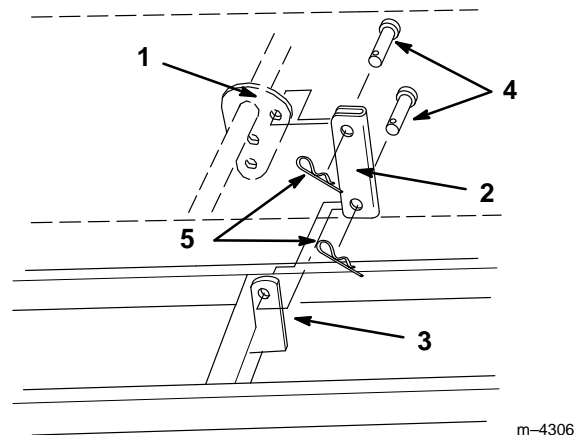

**Figure 10**
8. Now attach the blade frame to the mid section of the tractor by connecting the lift link to the blade frame and the lift attachment plate from beneath the tractor (Fig. 10 & 11).
A. Select the correct lift link for your application. The slotted link is the best choice for most applications, because it allows the blade to rise and fall over uneven or rough terrain (Fig. 10). Select the two-hole lift link for evenly dozing smooth, loose surfaces (Fig. 11).
B. Connect the hole in the lift link to the upper front hole in the attachment lift plate with the proper (2) clevis pins (Fig. 10 & 11).
2. Remove the (2) clevis pins and hairpin cotters securing the lift link between the blade and tractor attachment lift (Fig. 10 & 11).